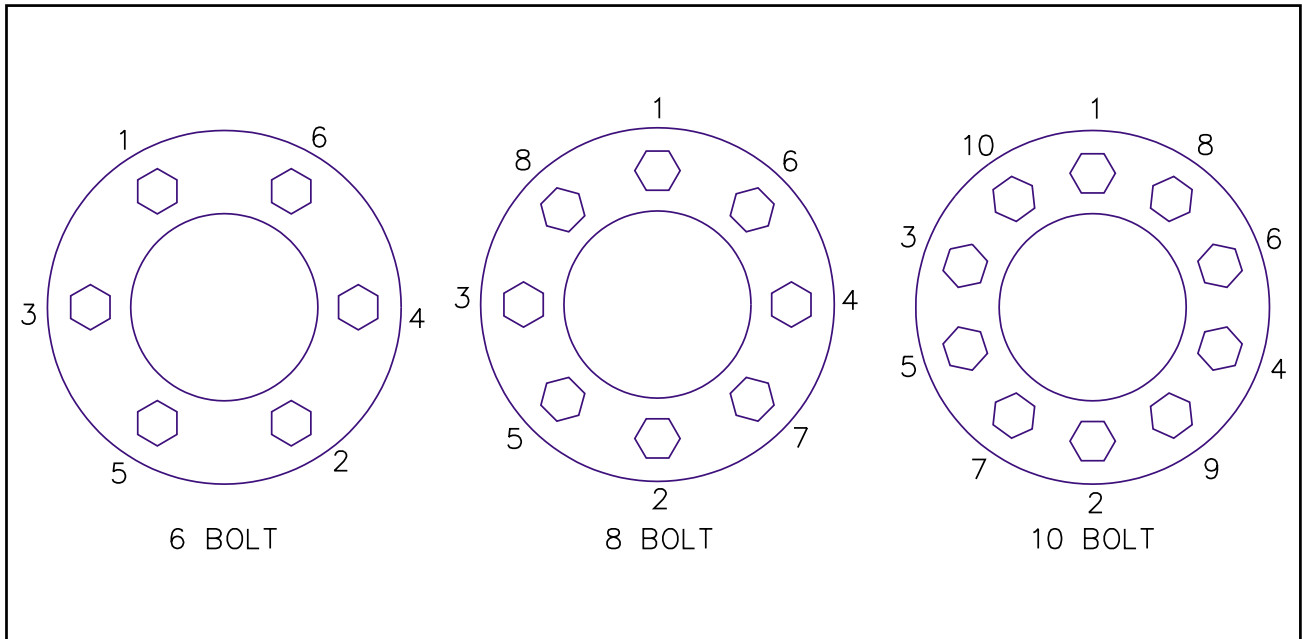

Figure 4-14 Stud Tightening Sequence
c. For ball seat mounted wheels only, install the inner capnuts on the studs and tighten to fifty foot-pounds using the sequence illustrated in Figure 4-14. Make certain that the left-handed threads are installed on the driver side of the vehicle and the right-handed threads are installed on the curbside of the vehicle.
d. Tighten the inner capnuts to full torque of 450 to 500 foot-pounds using the sequence shown in Figure 4-14.
g. Install the outer capnuts (ball seat) or flange nut (pilot mount) and tighten to 50 foot-pounds using the sequence in **Figure 4-14**. Then tighten to full torque of 450 to 500 foot-pounds for ball seat and 500 to 550 foot-pounds for pilot mount, using the same sequence.